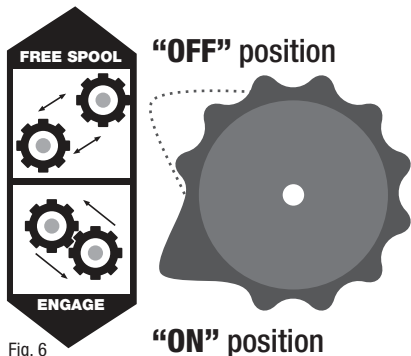

Fig. 6
- Use the hook strap to pull out the wire cable by moving the Clutch Control Knob to the “OFF” (Free Spool) position as shown in see figure 6.